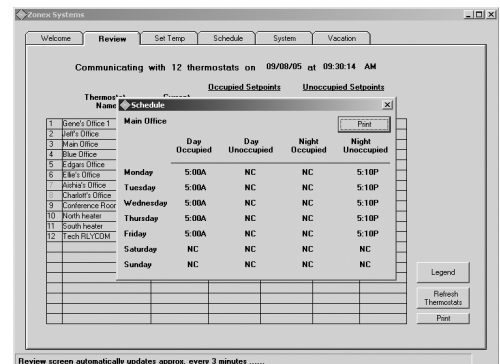

Fig. 19
2. Click on a thermostat name to display Schedules after they have been entered (see Fig. 19).
- b. Click on the thermostat name (see Fig. 19).